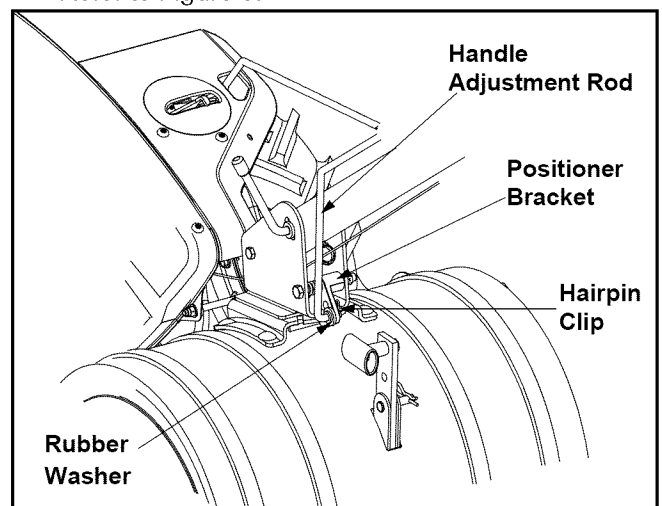

Figure 6
- Slide the rubber washer on the unthreaded end of the handle adjustment rod and insert the end of the handle adjustment rod into the positioner bracket beneath the handle and on top of the tine shield. Secure with hairpin clip. See Figure 6.